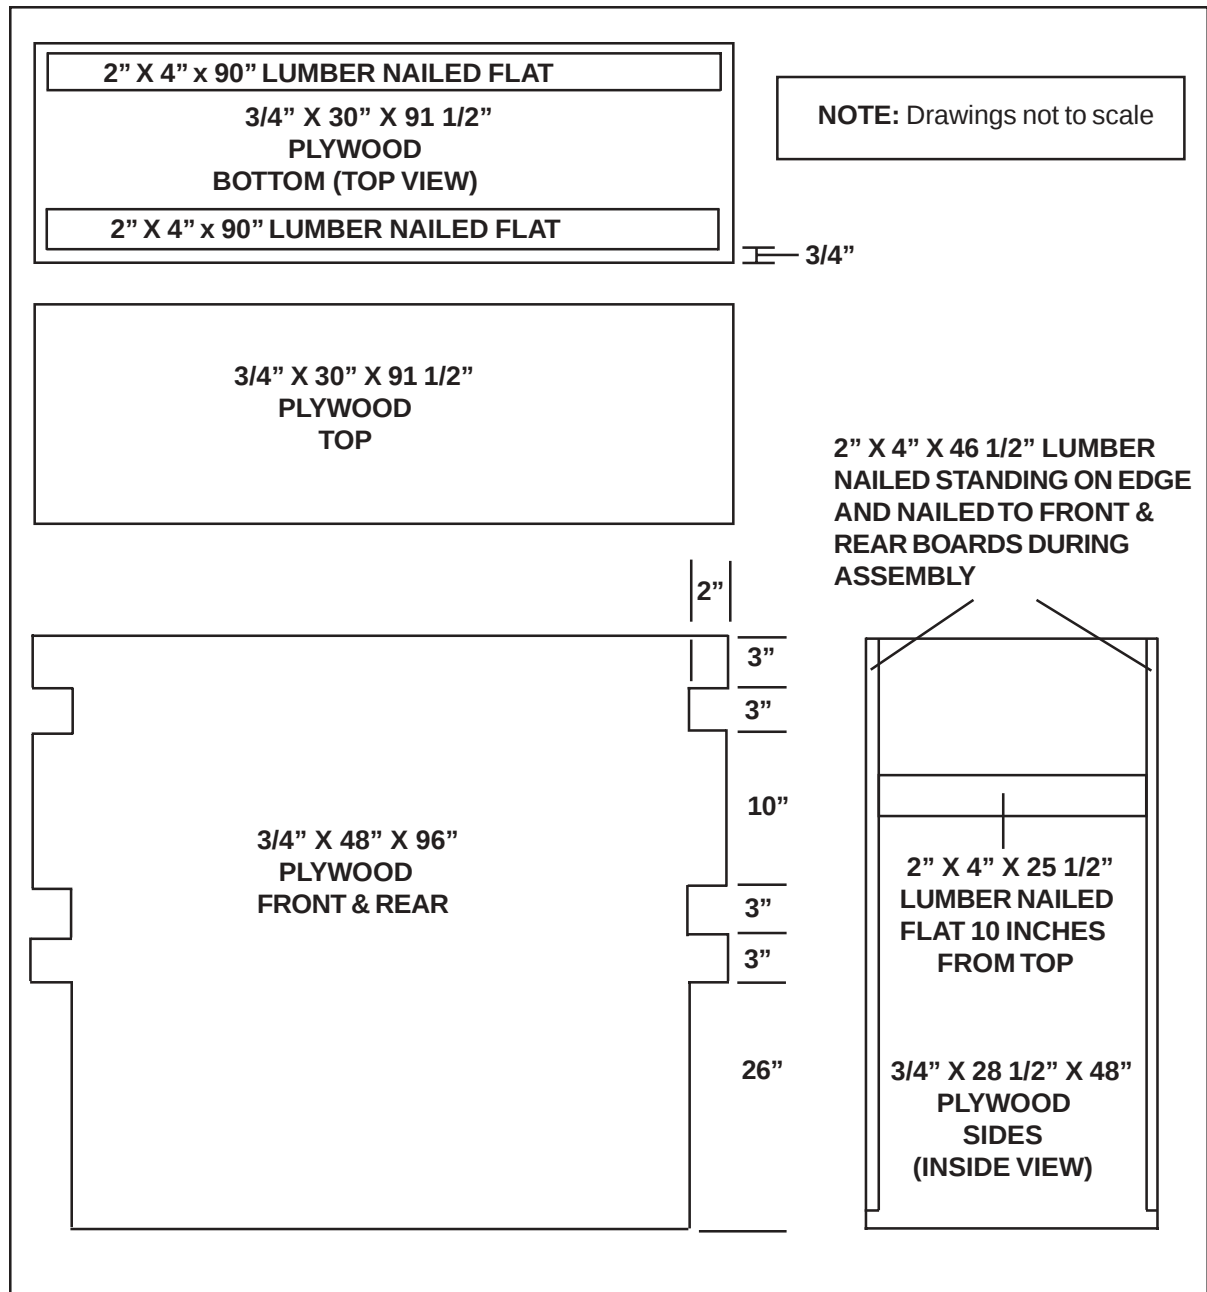

Figure 4-4. Front Equipment Box Built
4-5. Build the front and rear equipment boxes as shown in Figures 4-4 and 4-5.
a. Build the front equipment box using 16d nails and as shown in Figure 4-4.